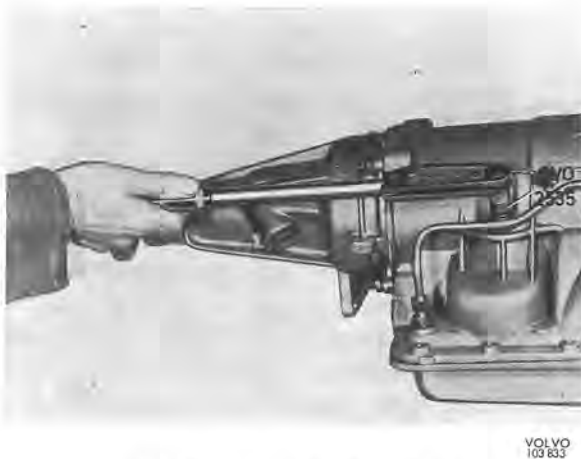

Fig. 4-76. Adjusting rear brake band
2. Use the special socket 2535 and connect the torque wrench to the adjusting screw, see Fig. 4-76. Tighten the screw to 14 Nm (10 lbft). Back off the adjusting screw one turn.